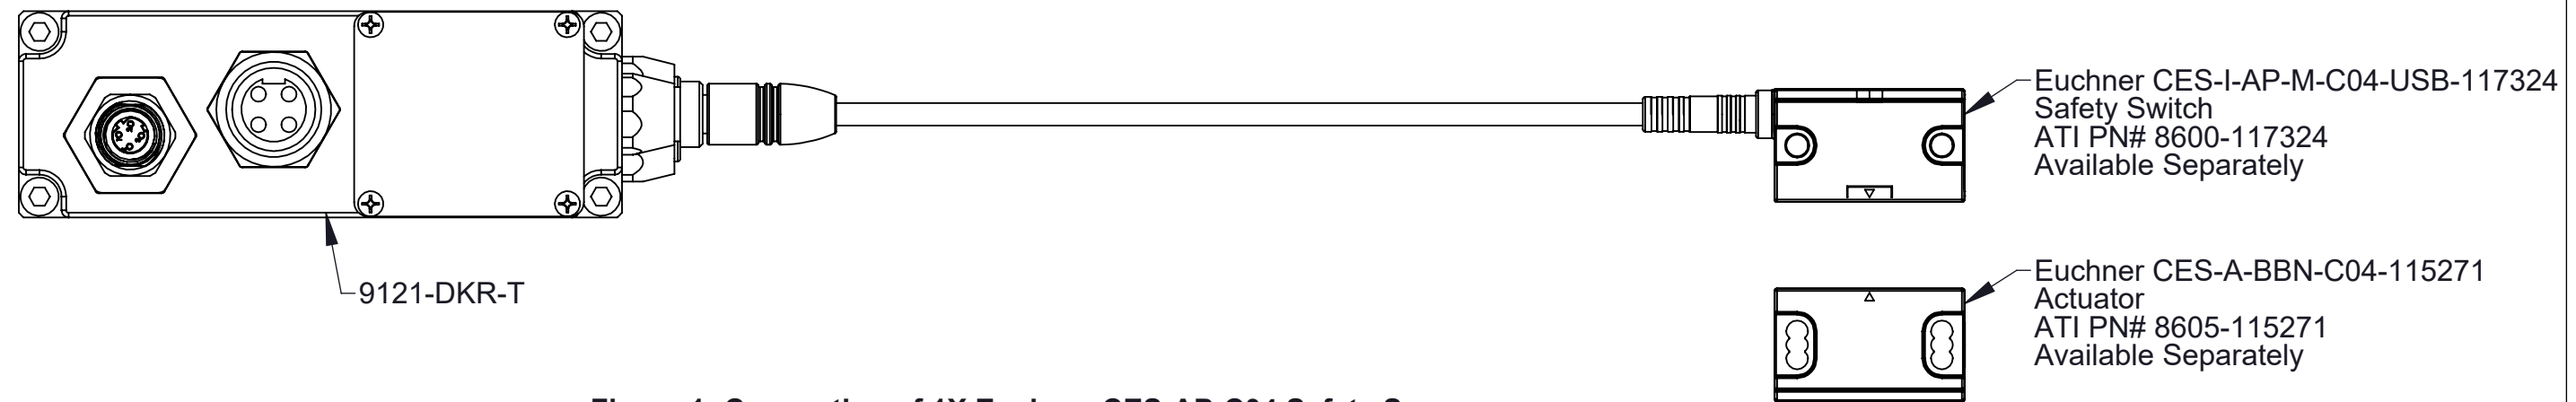

Figure 1: Connection of 1X Euchner CES-AP-C04 Safety Sensor
1. The 9121-DKR-T module requires the use of a two channel, PLe rated contactless Safety Sensor. If only a single Safety Switch is required, ATI recommends the use of the Euchner CES-I-AP-M-C04-USB-117324 Safety Switch (ATI P/N 8600-117324). Reference Figure 1 for connection details and component part numbers.